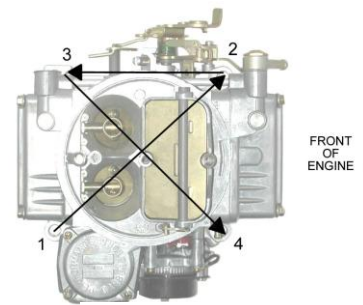

Figure 1
2. Place the carburetor on top of the flange gasket on the manifold. Install the hold down nuts and snug down progressively in a "criss-cross" pattern (60-80 in./lbs.), as shown in **Figure 1**.